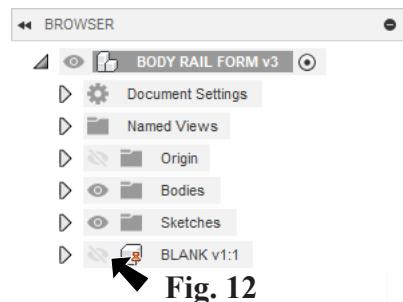

Fig. 12
Step 6. Hide  Blank  in the Browser, Fig. 12.